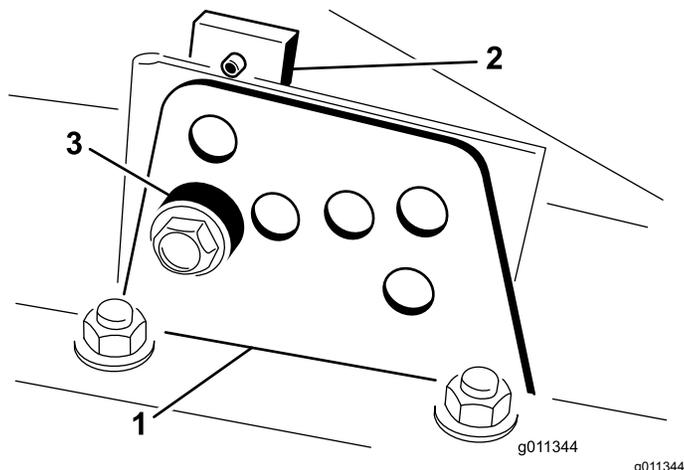

Figure 18
2. Loosen the bolt securing each height-of-cut bracket to the height-of-cut plate (front and each side); refer to Figure 18.
4. While supporting the chamber, remove the spacer (Figure 18).